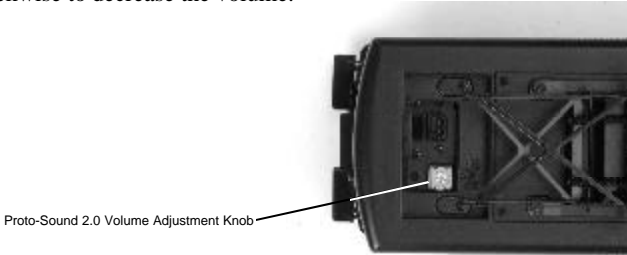

Figure 3: Manual Volume Adjustment Knob
2. Once the cab is removed, remove the trucks by unscrewing the black Phillips motor mount screw located on the underside of the drive trucks (see Fig. 3).